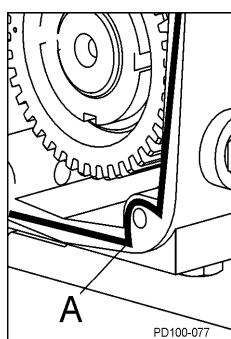

Figure 96 Sealant Placement
3. Apply silicone sealant to the back of the gear case. (Gore-Tex® sealing tape can be used on silicone-free models.) Place tape on the inside of the screw holes. (Figure 96, item A).